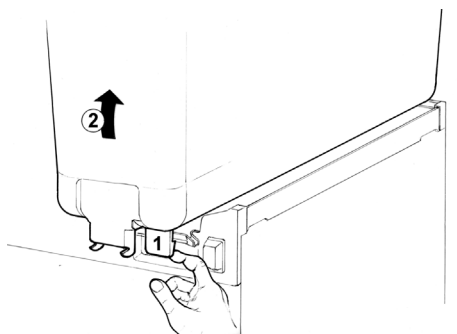

figure 2
2 Remove the empty bowl by lifting pulling lever (1) and its front side (faucet side) up and off bowl gasket (see figure 2).